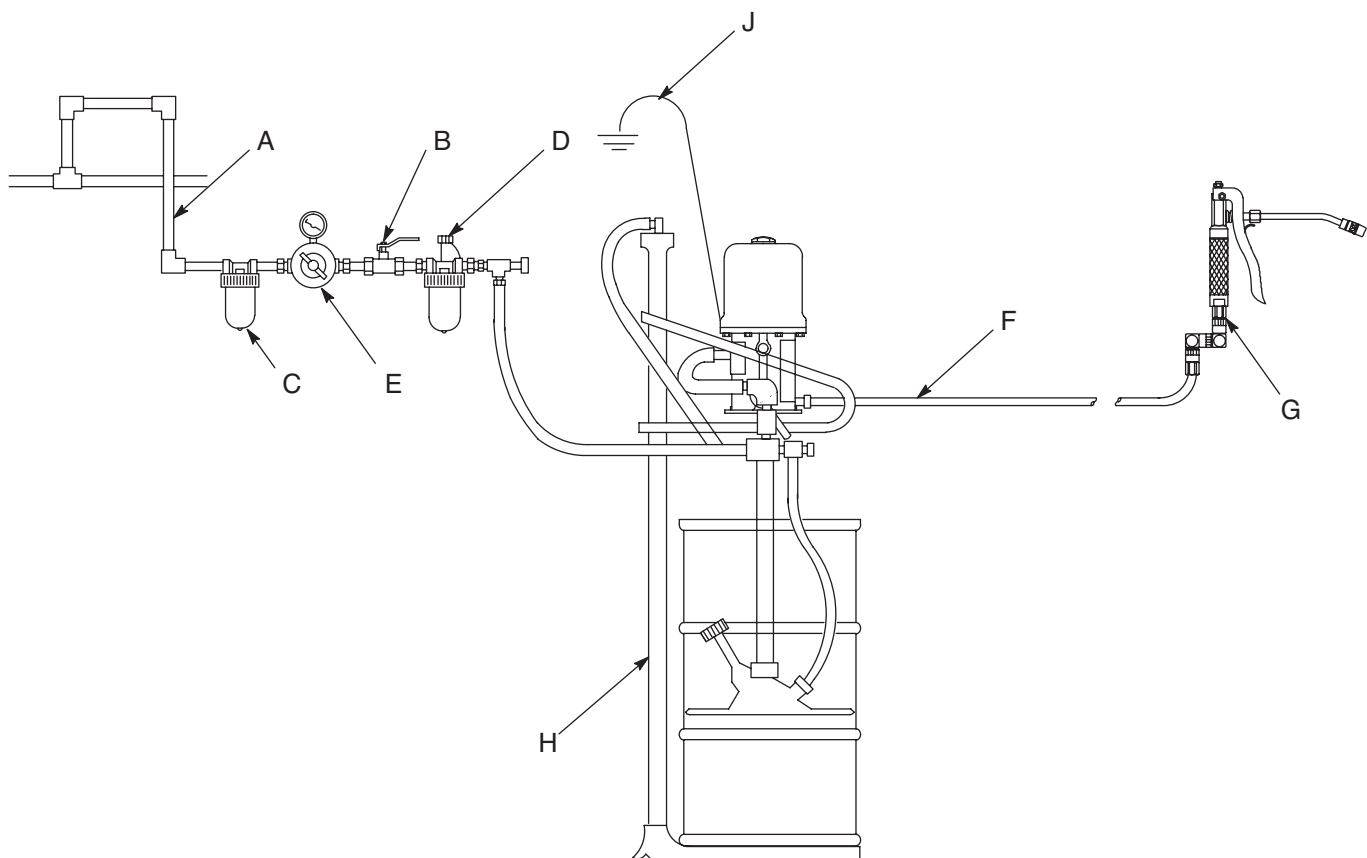

FIG. 2: Typical Installation
Install the air line accessories in the approximate order shown in FIG. 2. Install a bleed-type master air valve (B) within easy reach of the pump, upstream from the air regulator (E). Install an air filter (C) to remove harmful dirt and moisture from your compressed air supply. For automatic air motor lubrication, install an air line oiler (D) close to the pump air inlet. Install an air regulator (E) to control the pump speed.
The installation shown in FIG. 2 is only a guide for selecting and installing system components and accessories. Contact your Graco distributor for assistance in designing a system to suit your particular needs.
Use the air regulator (E) to control the pump speed and fluid pressure. See FIG. 2. Always use the lowest pressure necessary to obtain the desired results.